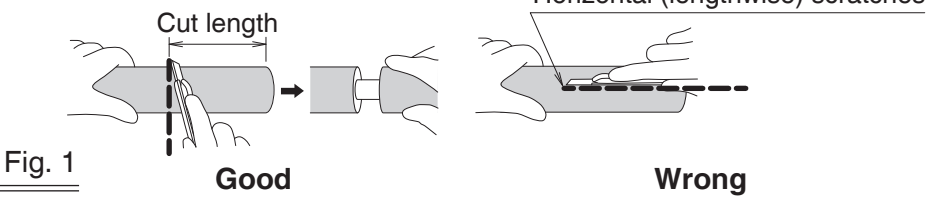

Fig. 1
- Being careful not to damage the piping, cut away the thermal insulation in the cylindrical direction. (See Fig. 1)